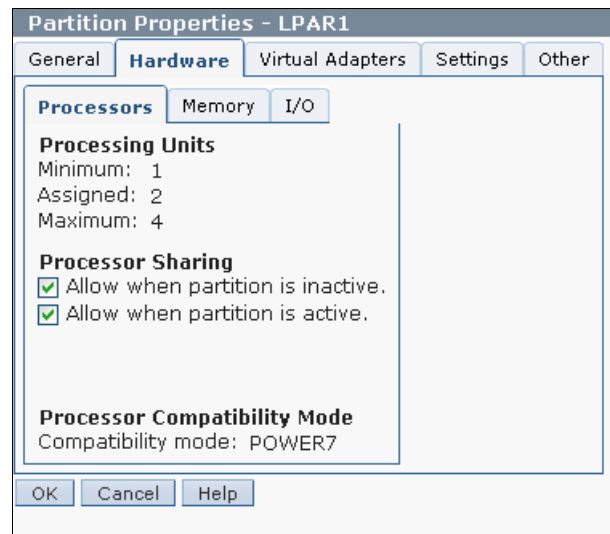

Figure 4-22 Processor sharing
2. To configure the managed server as a processor donor and open the window as shown in Figure 4-22 on page 135, select **Systems Management**, then select the name of the server. Select the name of the partition to view the partition properties.